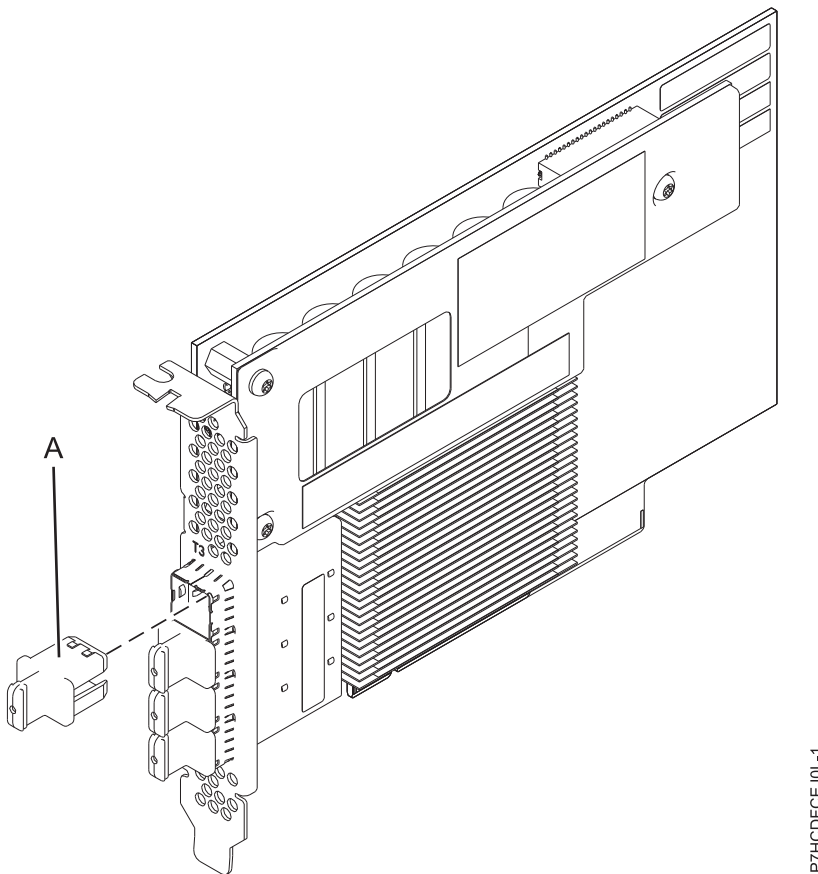

Figure 28. PCIe3 12 GB Cache RAID SAS 6 Gb Adapter
Figure 28 shows the PCIe3 12 GB Cache RAID SAS quad-port 6 Gb adapter. The connector plug (A) is installed in an empty port and prevents damage to that port whenever a cable for the adjacent port connectors is plugged-in or removed.
The FC EJ0L is a single wide, full-height, short adapter. Figure 28 shows the FC EJ0L adapter. Every FC EJ0L requires another FC EJ0L on this server, or on another server, which pairs with the SAS RAID adapter and enables cache functionality and the other multi-initiator high availability (dual storage IOA) functions.